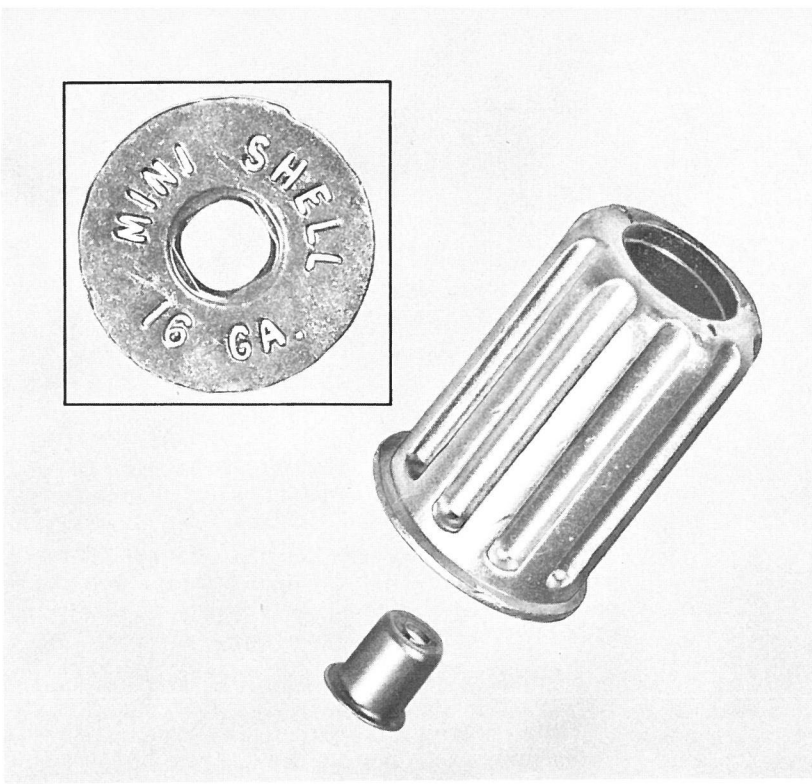

Figure 55. Sport Ammo Mini Shell
55. *Sport Ammo Mini Shell (figure 55)*